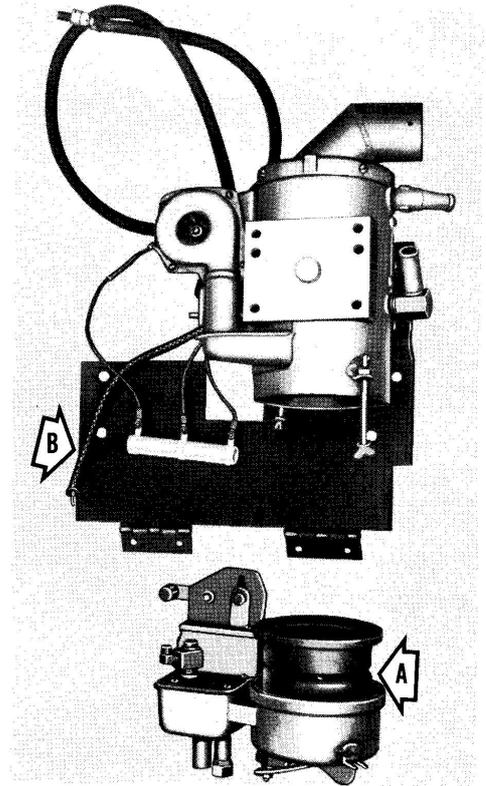

Fig. 6. (A) Burner bowl removed. (B) Igniter wire disconnected.
- c. Remove the burner bowl from the heater and Disconnect the igniter wire, Fig. 6.